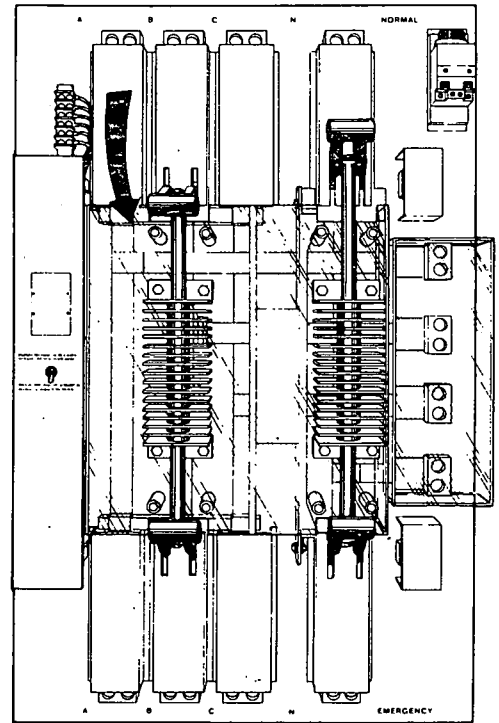

FIGURE 13.
2. Pull the top power handle down, as shown in Figure 13, disconnecting the power poles from the normal power source.